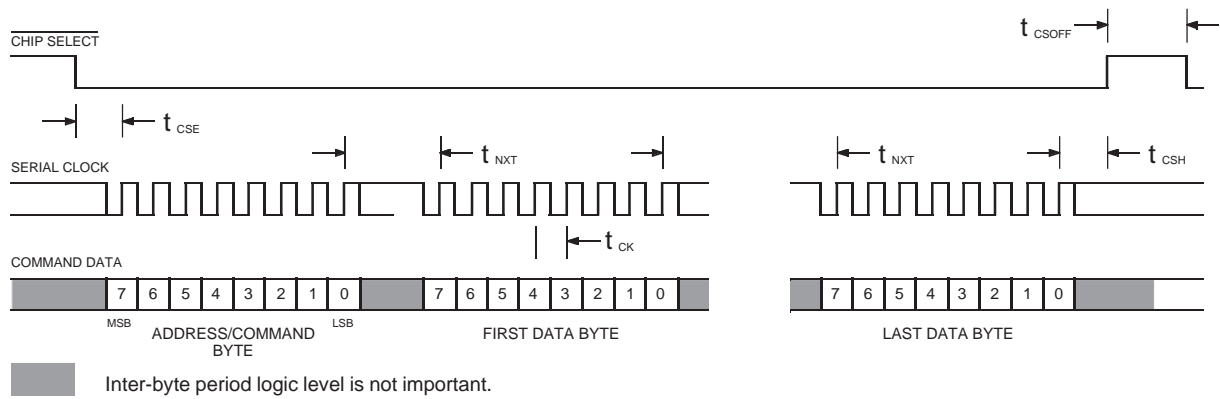

Fig.6 “C-BUS” Timing Information
**Command Loading** Address/Commands and data bytes must be loaded in accordance with the information given in Figure 6 (Timing ).